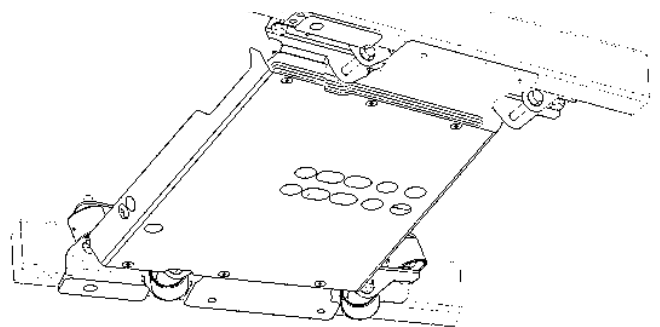

Figure 13
44. Install control arm mounting brackets to the frame (see figure 13 for front to rear orientation). Make sure mounting surface is flat and free of debris. Use the M12 x 40 flat head bolts from hardware kit 118. Use high strength threadlocker and tighten the bolts very tight.
78. Install belly skid plate using 3/8 flat head cap screws and flange nuts from hardware kit 118 and/or 120, and spacer plates as needed (see figure 13).